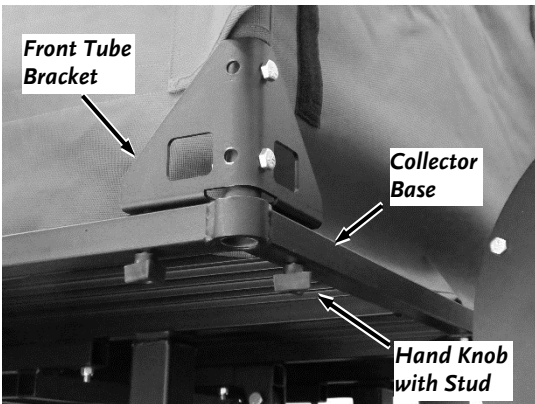

Figure 36
15. Secure the front Tube Brackets to the Collector Base with two Hand Knobs with Studs for each Bracket (**Figure 36**). Do not tighten fully.